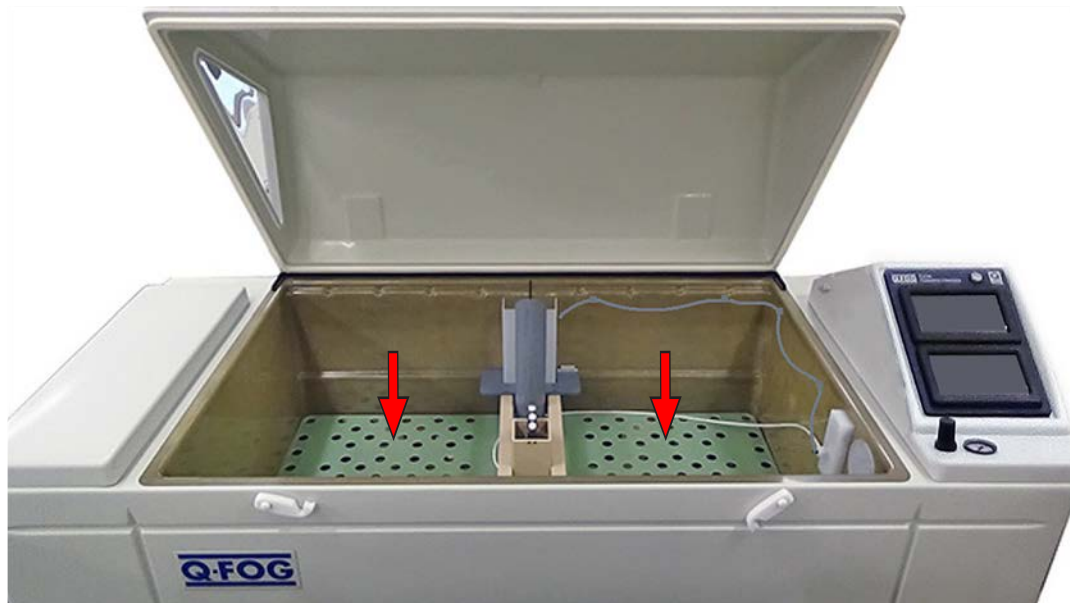
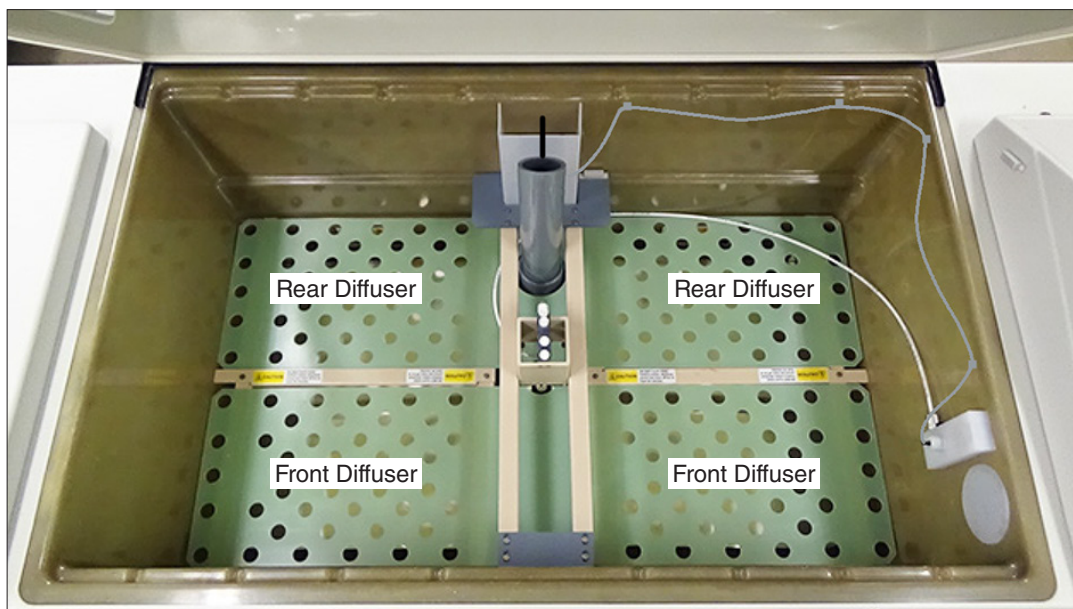

Figure 8.3a: Diffuser location. SSM Model shown, same location for TSSB models.
Figure 8.3b: Diffusers in chamber (shown with Stationary Shower Module installed)
- Diffusers are perforated fiberglass sheets (Figure 8.3a and Figure 8.3b) positioned above the chamber heaters.
- The Q-FOG chamber heaters are located under the diffuser plates at the bottom of the chamber (Figure 8.3b).